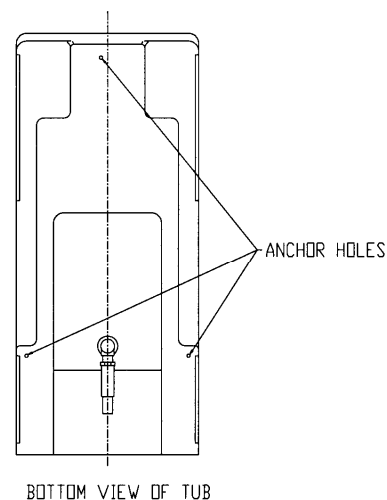

Figure 5
These instructions for anchoring the tub are written with the assumption that the installation is being done on a concrete floor. If this is not the case, the tub can be anchored with simple lag screws (not provided). There are three anchoring holes for anchoring the tub. See figure 5.
8. Mark the anchor hole locations on the floor. See figure 5.